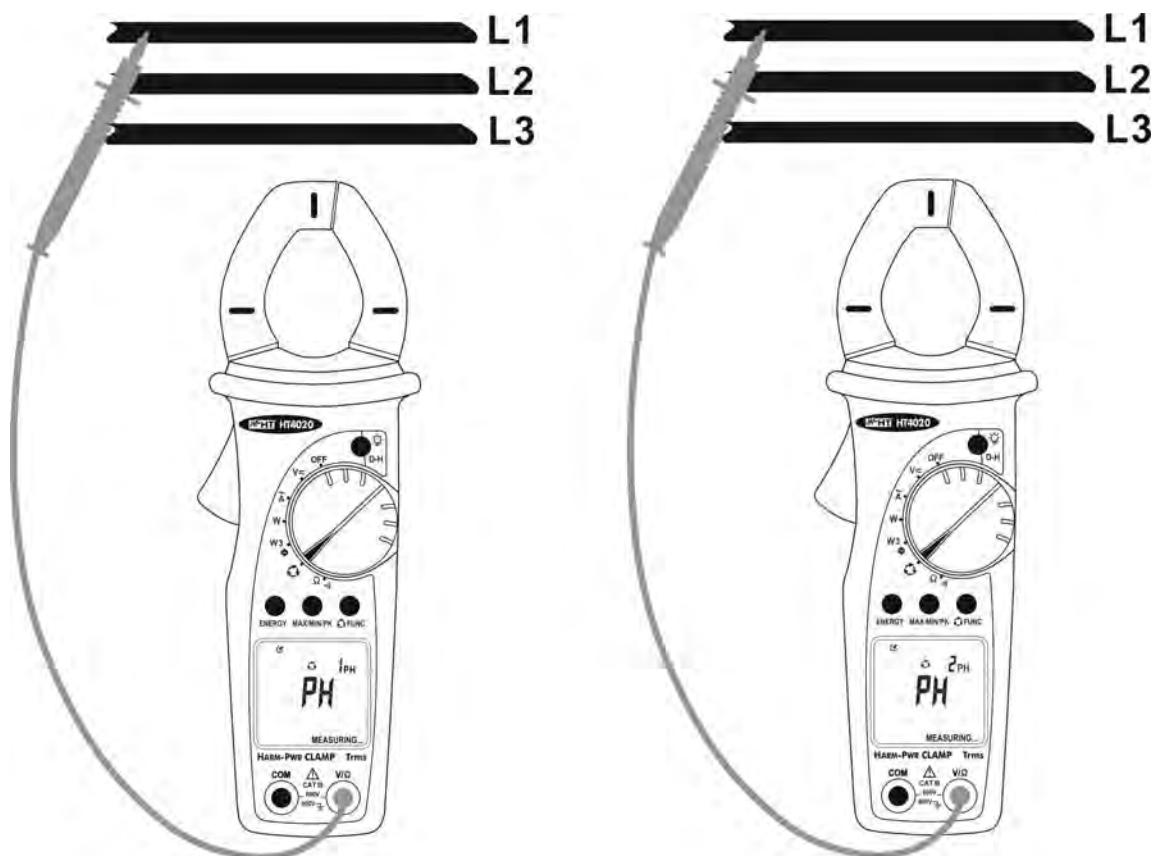

Fig. 14: Use of instrument for phase coincidence indication with 1 wire
3. Connect the red terminal to the L1 phase conductor of the first 3-phase system (see Fig. 14 – left part). If necessary use the rubber cup to insert red test lead
8. Connect the test lead to the L1 phase of the second 3-phase system (see Fig. 14 – right part)